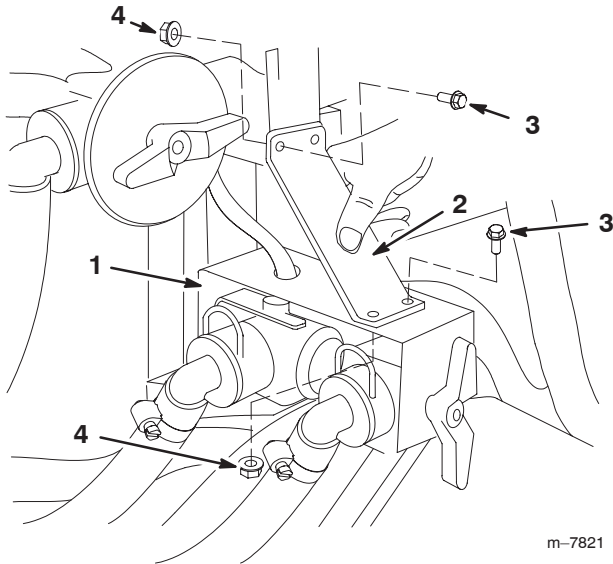

Figure 7
- On a Multi-Pro Sprayer, install the support bracket as shown in Figure 7, using 4 flange-head bolts (1/4 x 3/4 inch) and 4 flange nuts (1/4 inch).